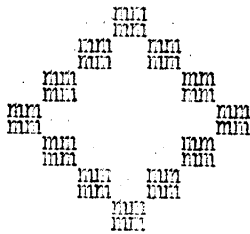
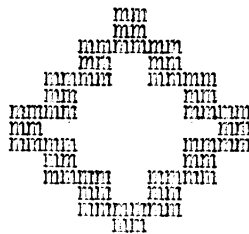

Fig. 1
Fig. 2
For instance a four-block pattern in fig. 1 can be woven on 16 frames, and 16 treadles but if the blocks are combined as in fig. 2, the number of treadles becomes too high to be practical (28).